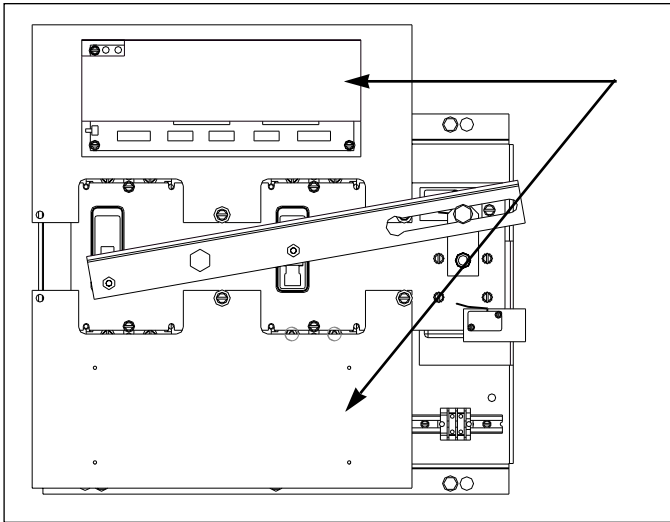

Figure 4-4 Deadfront Removal
- Step 2:** Before removing the 4 screws that hold the top Dead Front cover in place, disconnect the 5 white plugs on the logic board. Care should be taken when it is placed aside. Remove the 4 screws from the bottom Dead Front and place it in a safe place (Figure 4-4).